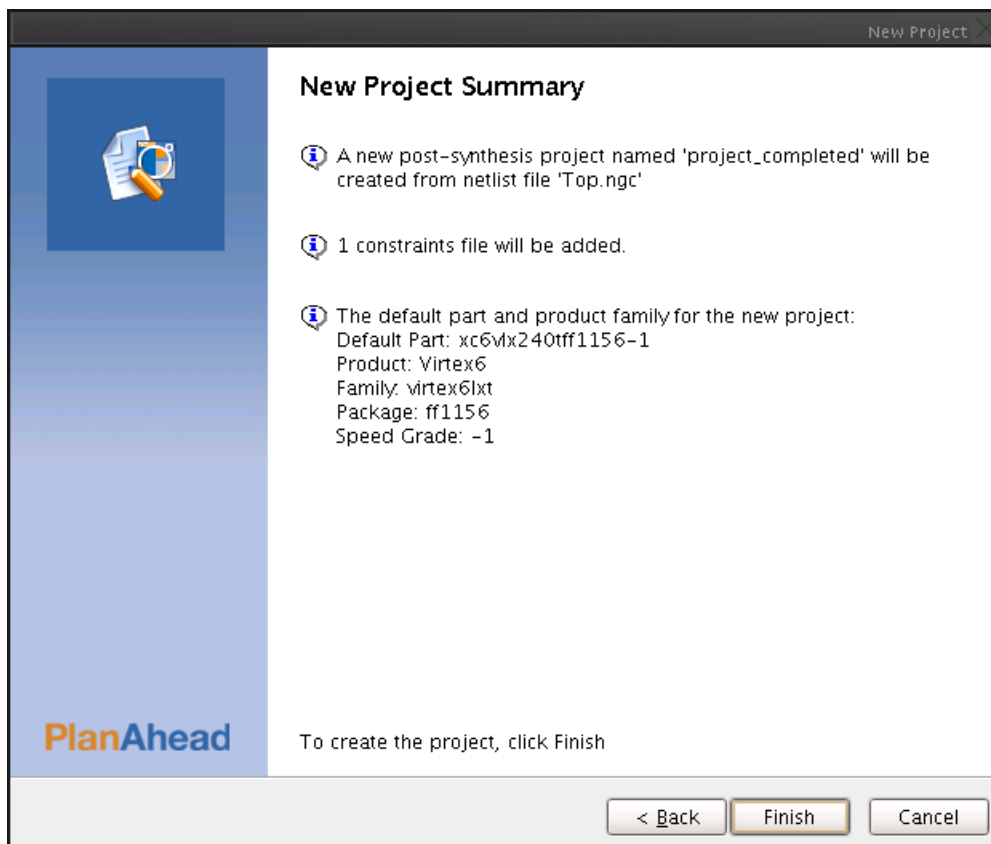

Figure 4: New Project Summary
- 2-1-9.** On the New Project Summary page, verify the project settings as shown in Figure 4, and click **Finish**.